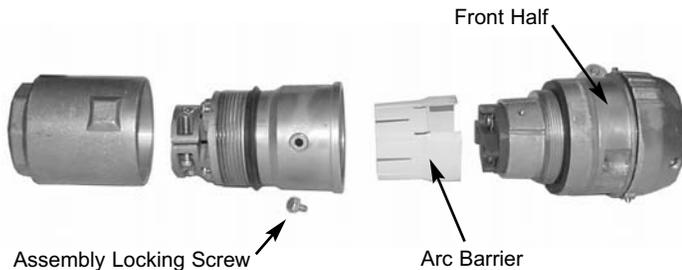

Figure 1
1. Remove assembly locking screw from side of plug shell as shown in Figure 1.